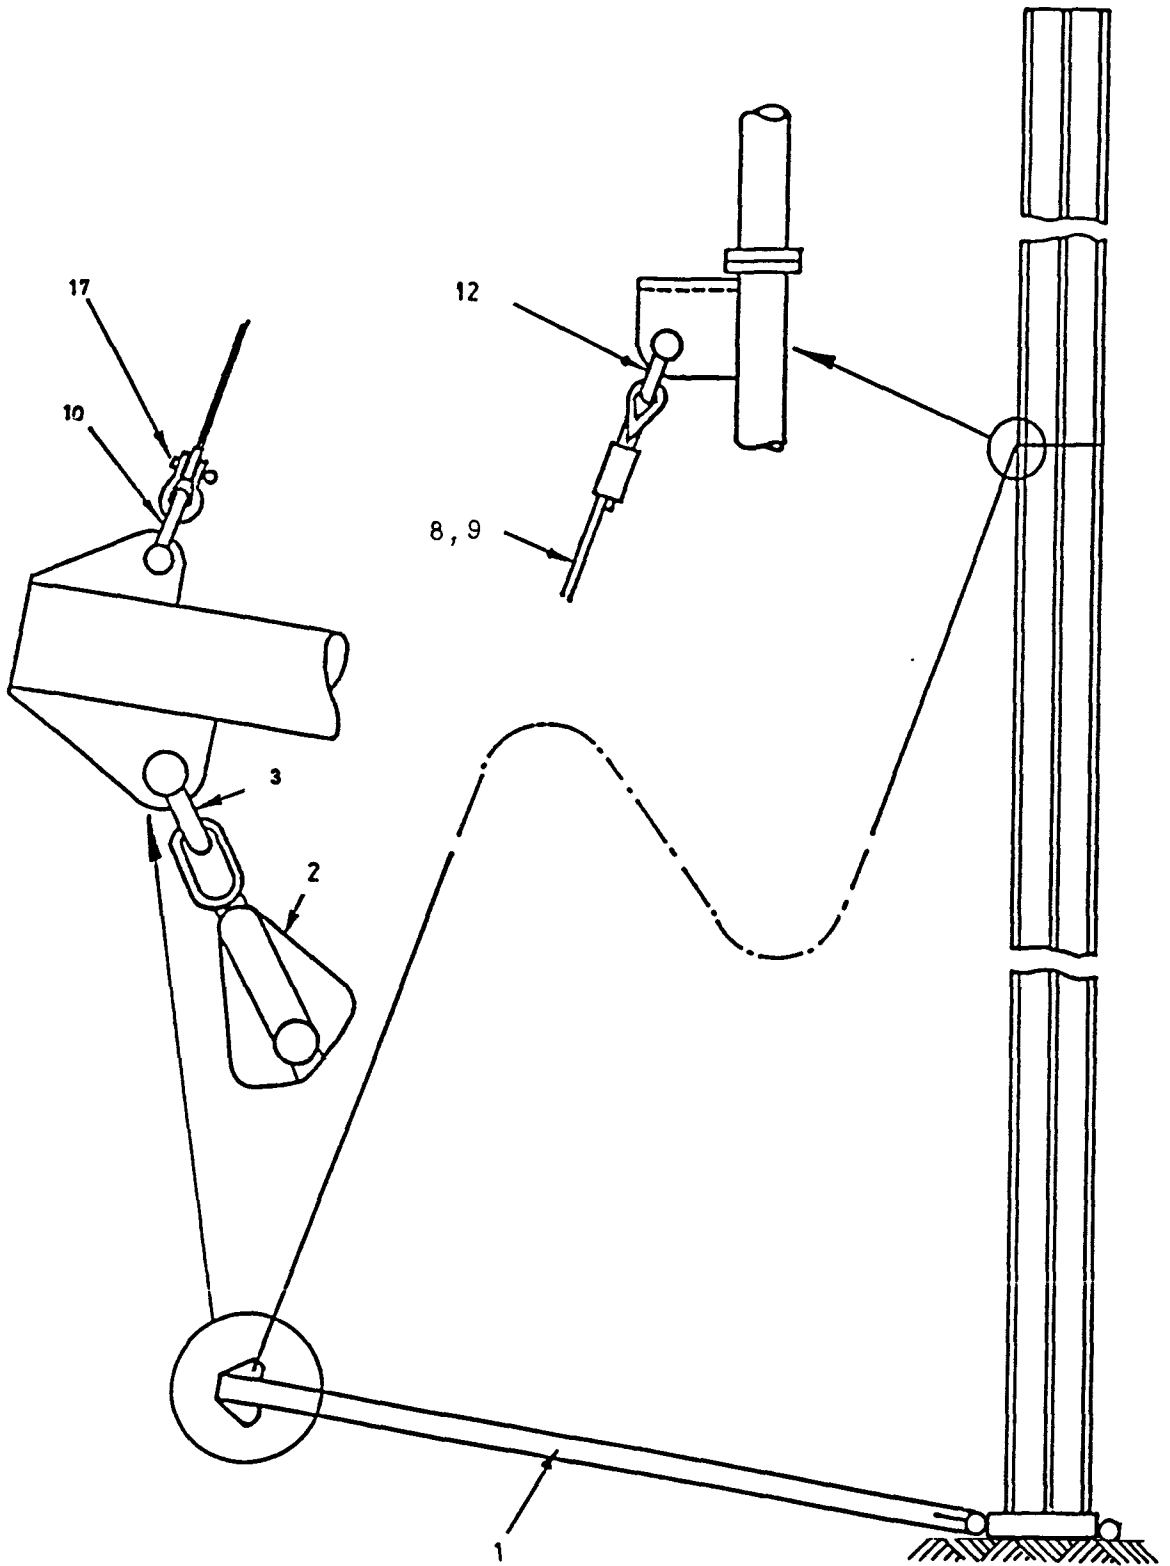

Fig.2 Derrick attachment
| 2 | Items list for fig.2 | ... | ... | ... | ... | ... | ... | ... | 8 |
8.1 Refer to Fig.2 and Table 2. On the side of the mast base closest to winch block 'C', position the cross tube of the erection derrick (item 1) in the housings provided and secure with the U bolts (item 19). Leave the U bolts slack. Ensure that the small shackle attachment lug at the derrick head is pointing upwards. Lay the derrick out on the ground and support it, if necessary, with wood blocks.
TABLE 2 ITEMS LIST FOR FIG.2